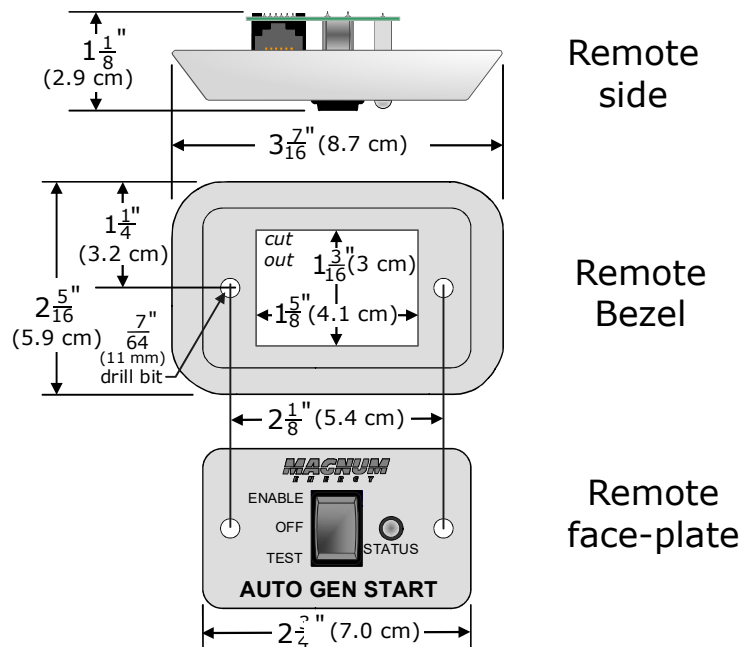

Figure 2-3, Remote Dimensions
1. Cut a hole for the remote switch. See Figure 2-3 for dimensions.